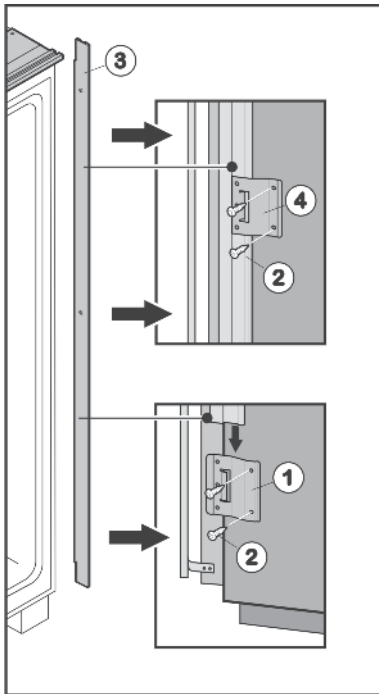
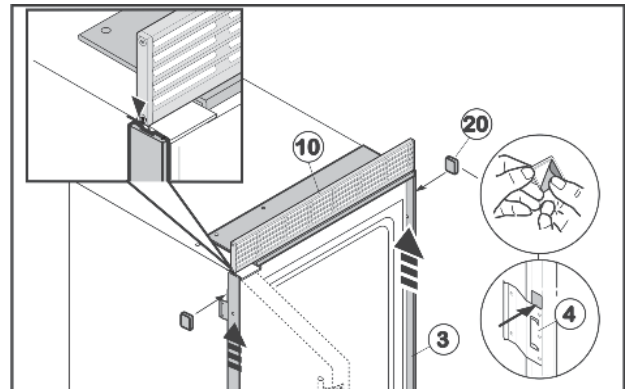
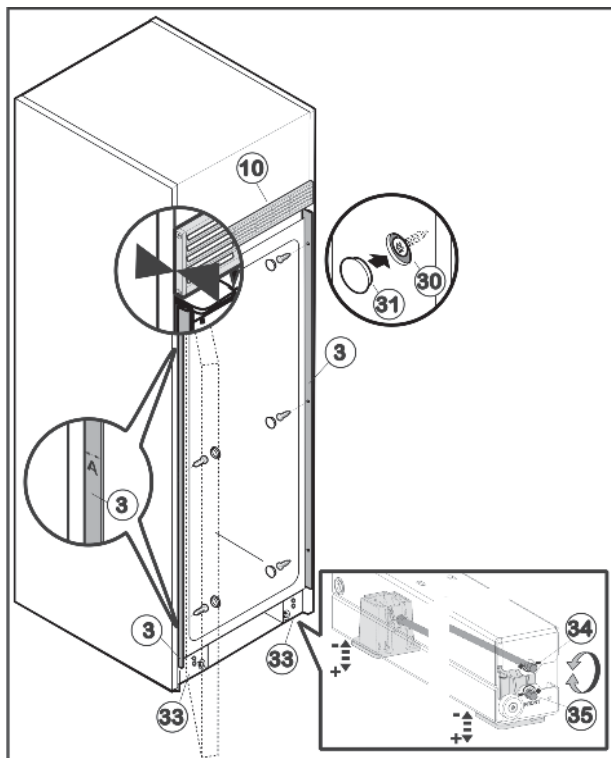

Fig. 30
Fig. 33
Fig. 34
- ▶ Fit retaining plate Fig. 30 (1) to the lower part of the handle side by inserting two screws Fig. 30 (2) into the pre-cut holes.
- ▶ Slide installation strip Fig. 30 (3) into the retaining plate Fig. 30 (1) from above.
- ▶ Push second retaining plate Fig. 30 (4) onto the installation strip Fig. 30 (3) from above and screw to the center of the side wall.
- ▶ Push third retaining plate Fig. 30 (4) onto the installation strip Fig. 30 (3) from above and screw to the top part of the side wall.
- ▶ Remove adhesive tape from the side installation strip Fig. 33 (3).
- ▶ Push installation strip Fig. 33 (3) upwards until it is touching the ventilation grille Fig. 33 (10).
- ▶ Glue the adhesive plates Fig. 33 (20) above the retaining plate Fig. 30 (1) and the retaining plates Fig. 33 (4) respectively to the installation strip Fig. 33 (3) such that it cannot slide downwards.
- ▶ Push the appliance into the recess until the rear edge of the ventilation grille Fig. 34 (10) is flush with the front edge of the side wall of the cabinet.
- ▶ Align appliance inside the recess above the roller bases Fig. 34 (33) using a spirit level: Use upper adjustment setting (1/4") Fig. 34 (34) for the rear adjustable foot and lower adjustment setting (1/4") Fig. 34 (35) for the front adjustable foot respectively. Turn clockwise to raise and counterclockwise to lower. Maximum adjustable height: 5/8 in (16 mm).
- ▶ At the top and bottom of the recess check the gap **A** between the front edge of the installation strip Fig. 34 (3) and the front edge of the side wall of the unit. It must be 1/2 " (13 mm). Realign the appliance in the recess if required.
- ▶ Secure appliance inside the recess using three screws Fig. 34 (30) on the handle side and the hinge side respectively. Do not scratch the side installation strip Fig. 33 (3) when doing so.
- ▶ Place cover caps Fig. 34 (31) over the screws.